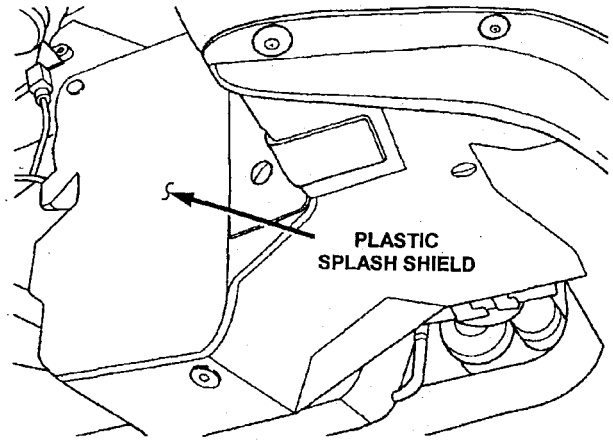

Figure 3
8. Remove the right front wheel-well housing plastic splash shield (Figure 3).
18. Install the right front wheel-well housing plastic splash shield (Figure 3).